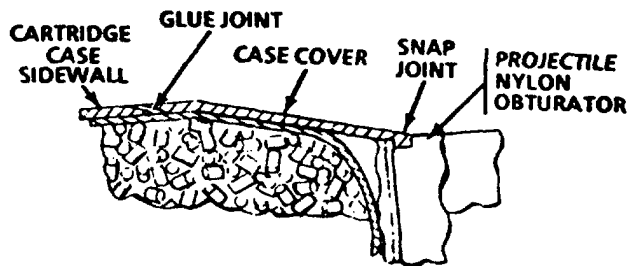

Figure 13. KE M829 series (projectile cartridge case interface).
For the APFSDS-T (KE) M829 series, figure 13 shows the projectile cartridge case interface.